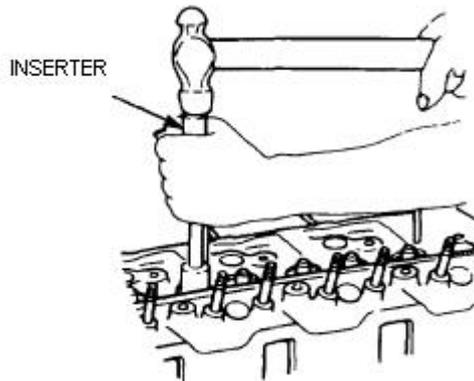

**Figure 8 Measuring the Valve Guide Wear**
- v. Check the valve guides for wear by installing the valves in their respective guides (use new valves if the existing valves are unserviceable) and, using a dial indicator (Figure 8), measure the clearance by pushing the valve stem back and forth against the dial indicator plunger. Replace any valve guide if the clearance exceeds the following limits:
- (1) inlet valve guides, 0.039 to 0.2 mm (0.0015 to 0.008 in); and
- (2) exhaust valve guides, 0.064 to 0.25 mm (0.0025 to 0.010 in).